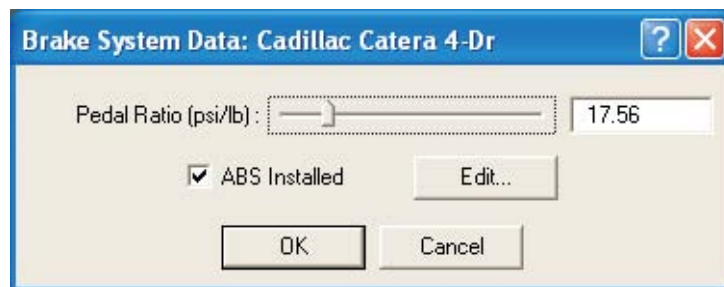

Figure 5-2 Brake System Data dialog, after clicking ABS Installed checkbox. Note that the Edit button becomes enabled after clicking the checkbox.
- Click on the vehicle's brake system icon (i.e., the brake pedal - you may need to look at the vehicle's undercarriage to locate the brake pedal). The Brake system dialog is displayed (see Figure 5-2).
- Click on the vehicle's brake system icon (i.e., the brake pedal - you may need to look at the vehicle's undercarriage to locate the brake pedal). The Brake System dialog is displayed (as shown earlier in Figure 5-2).